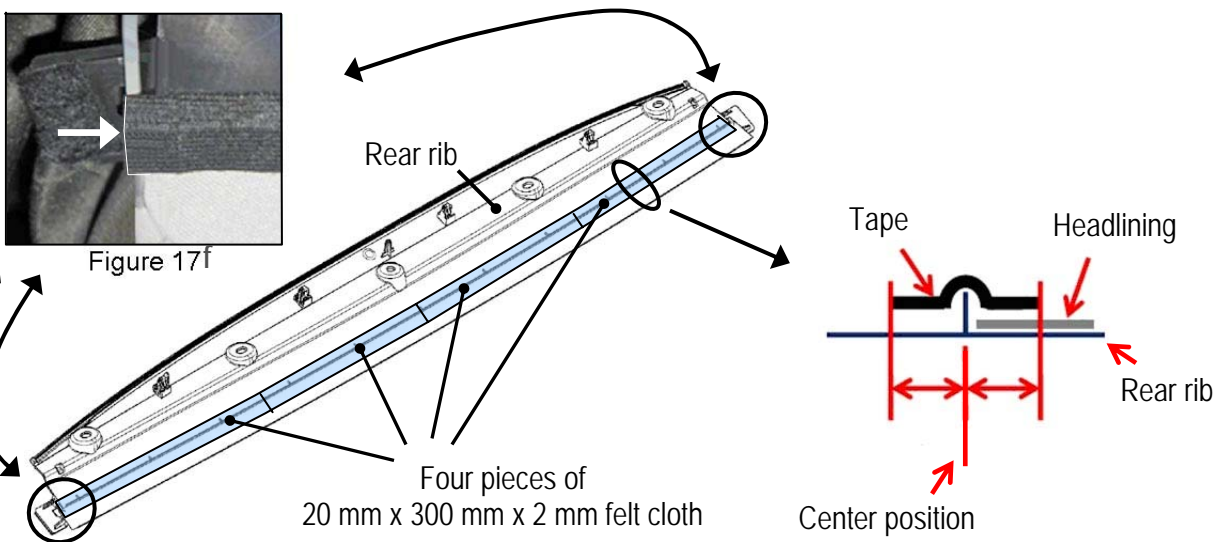

Figure 16f
**NOTE:** The rear rib comes attached to the headlining. It is shown separate in Figure 16f for easier viewing.
17. Remove any existing pieces of felt cloth where outlined in blue in Figure 16f.
19. Apply the cut pieces across the length of the rear rib where outlined in blue in Figure 16f.